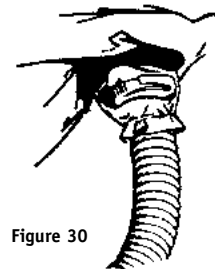

Figure 30
3. Install nylon clamp over air entry sleeve and breathing tube. If desired, 2 or more clamps may be used (see Figure 30). The air entry sleeve seams should be on the sides of the breathing tube when properly installed and worn.